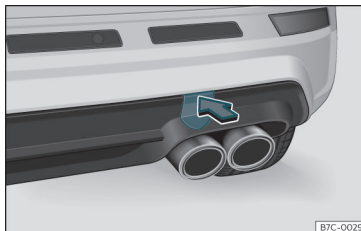

Fig. 86 Rear bumper on right: remove the lid.
The housing of the screw towing eye is on the right side of the rear bumper behind a lid »» Fig. 86. *Vehicles equipped as standard with a towing bracket do not* have any housing for the screw towing eye behind the lid. In this case, the tow hitch needs to be extracted or installed and used for towing
- Press the upper side of the lid »» Fig. 86 to unclip it.